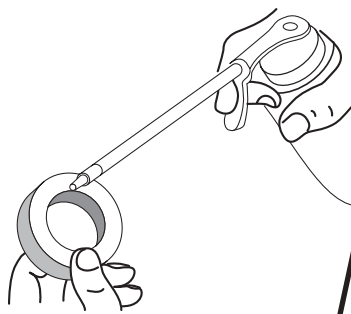

Fig. 50
4. Apply enough clean SAE 30 oil to lightly coat the filter (Fig. 50).